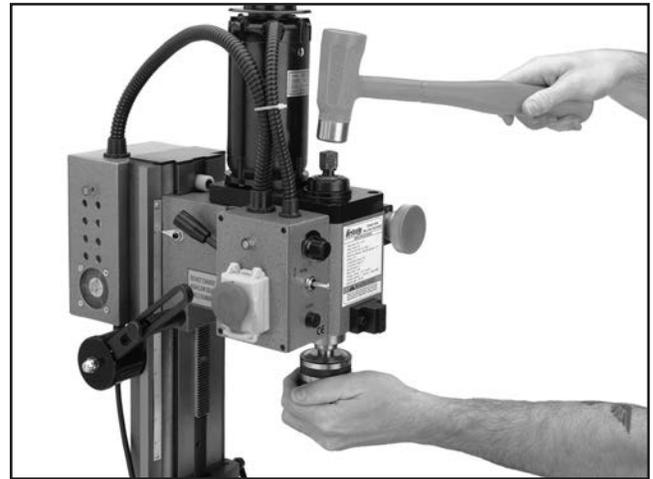

Figure 8. Striking the drawbar.
6. Tap the top of the drawbar with the brass hammer. This will unseat the taper of the arbor and the spindle (see **Figure 8**).